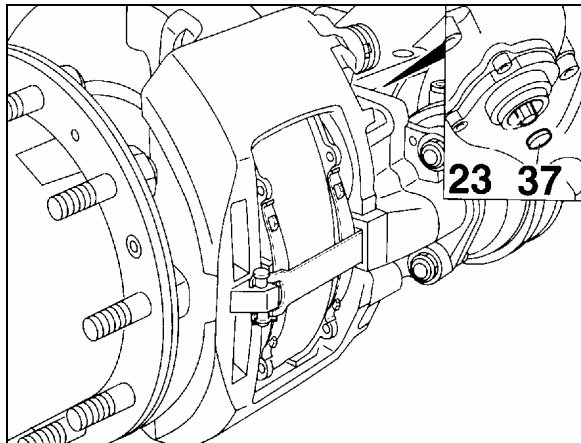

FIGURE 28: ADJUSTER PINION
- b) Using a box wrench (8 mm), turn the adjuster pinion (23, Fig. 28) counterclockwise about 2 - 3 clicks to increase running clearance. By operating the braking system about 5 - 10 times (30 PSI or 2 bar), the wrench should turn clockwise in small increments if the adjuster is functioning correctly (Figs. 28 and 29).